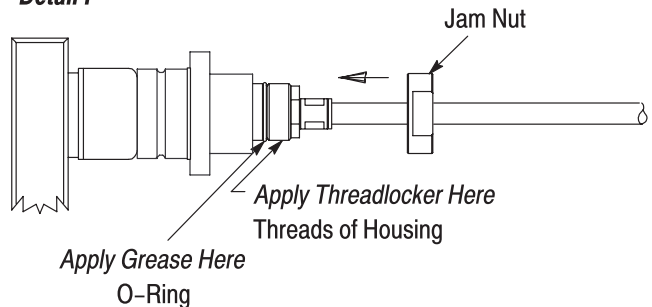

Figure 14
10. Align the internal key (small bar inside) of the housing with the keyway (slot along the outside) of the EB insert, and slide the fixture along with the EB insert assembly into the housing. See Figure 14, Detail A.
13. Slide the wave spring over the crimp sleeve and into the housing. See Figure 14, Detail B.
14. Apply 2 to 3 drops of the threadlocker to the threads at the front of the compression sleeve. See Figure 14, Detail C.
15. Slide the compression sleeve over the crimp sleeve and into the housing. Thread the compression sleeve onto the housing. See Figure 14, Detail D.
16. Secure the bench-mount assembly fixture to a stable work surface. Fit the end of the housing onto the captive housing of the bench-mount assembly fixture. See Figure 14, Detail E.
17. Apply 2 to 3 drops of threadlocker to the threads of the housing. Then, apply the grease around the O-ring on the outside of the housing. See Figure 14, Detail F.
18. Slide the jam nut onto the housing, and finger-tighten. See Figure 14, Detail F. Using the 20-mm U-wrench, tighten the jam nut to a torque between 10 and 12 N-m.